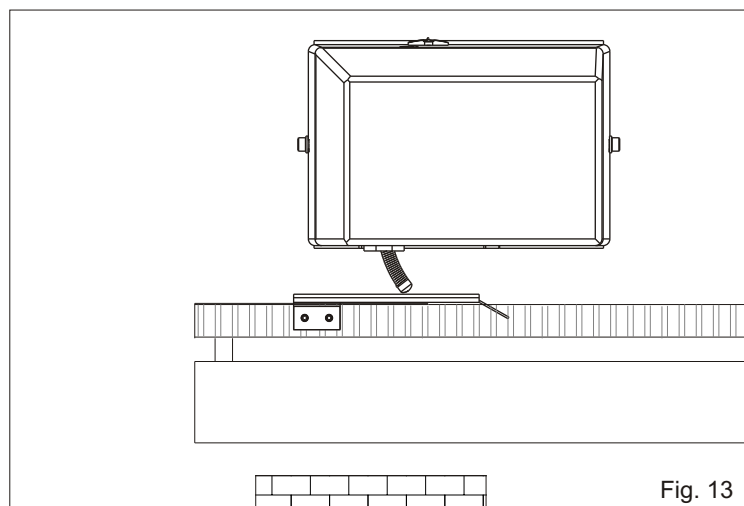

Fig. 13
- Place the limit switch plate on the gear rack to have the limit switch (spring in case of mechanical limit switch (Fig. 13)) in correspondence with the X point which is 50 mm from the folded side of the plate (Fig. 14) and fix it with the supplied screws (Fig. 15).